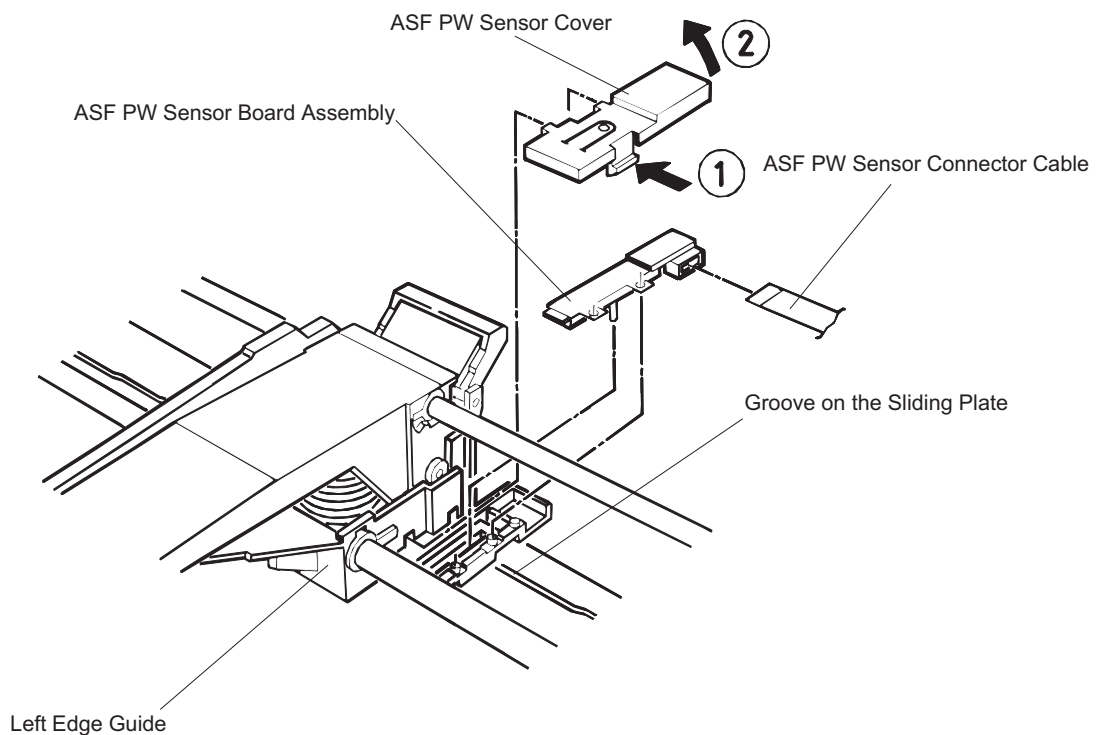

Figure 3-24. PW Sensor Removal
3. Using a screwdriver or other pointing tool, release 1 hook securing the ASF PW sensor cover to the left edge guide unit. Then remove the PW sensor cover by opening it in 2 steps shown in Figure 3-24.